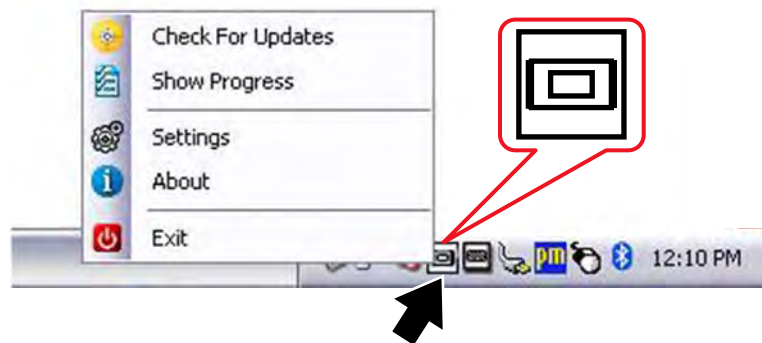

Figure 15-5 ShopStream Update Tool icon and menu
1. Select the SST icon in the system tray to open the menu (Figure 15-5).